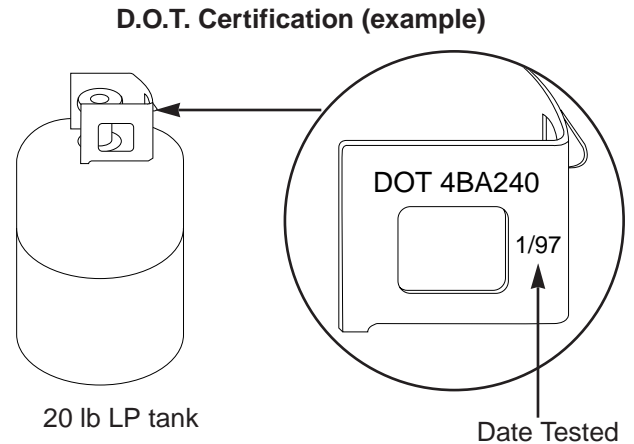

Figure 7
- Replacement LP tanks supplied by Weber satisfy the requirements. Check to be sure the tank has a D.O.T. certification, and has been tested within five years. Your LP gas supplier can do this for you. Figure 7.
- a) Hose to manifold connection. Figure 7 (a).
- b) Regulator to tank connection. Figure 7 (b).
c) Valves to manifold connections. Figure 7 (c).
d) The hose to regulator connection. Figure 7 (d).